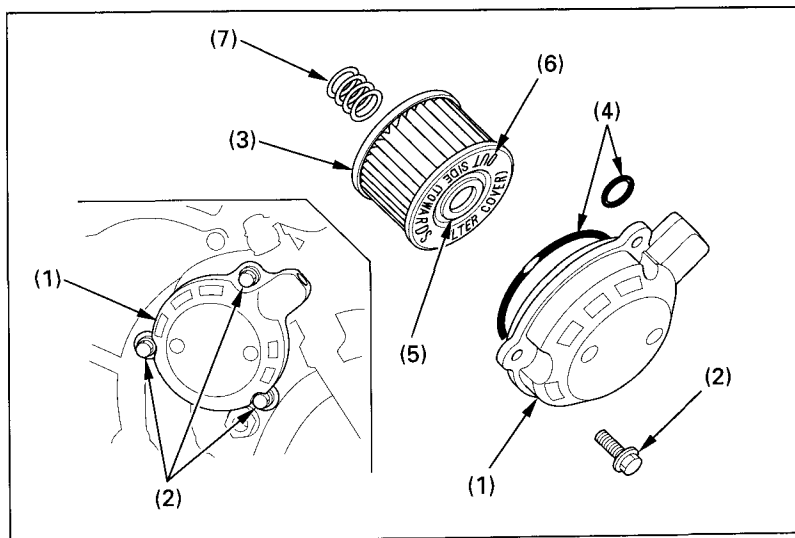

Fig. 4-14
3. Remove the oil filter cover (1) (Fig. 4-14) by removing the bolts (2). Let the remaining oil drain out. Discard the oil filter (3).
4. Check that the oil filter cover O-rings (4) are in good condition and then install a new oil filter. Use only the Honda genuine oil filter or a filter of equivalent quality specified for your model. Using the wrong Honda filter or a non-Honda filter which is not of equivalent quality may cause engine damage.
5. Install the filter with the rubber seal (5) facing out, away from the engine. You will see the "OUTSIDE (TOWARDS FILTER COVER)" mark (6) on the filter body, near the seal.